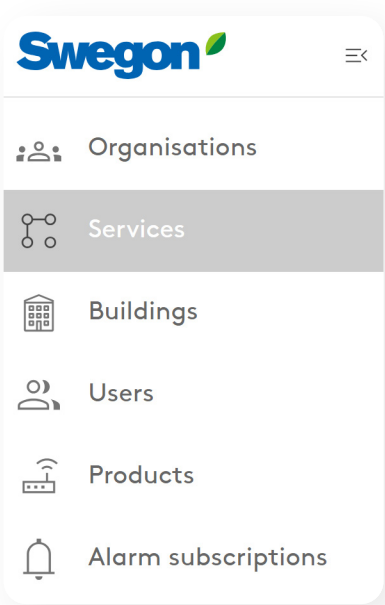

Figure 7. Services page INSIDE Portal.
1. Go to the service page, found in the left side menu in INSIDE Portal (fig.7).